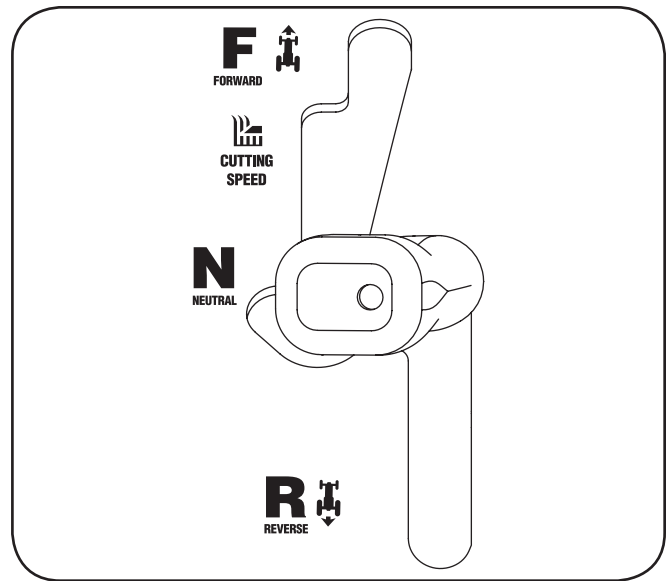

Figure 4-4
The speed control lever, located on the left rear fender, controls the ground speed of the lawn tractor as well as the direction of travel. See Figure 4-4.
3. Slowly move the speed control lever in desired "F" forward or "R" reverse position. The further forward or rearward that the lever is moved, the faster the tractor will travel. Refer to Figure 4-4.